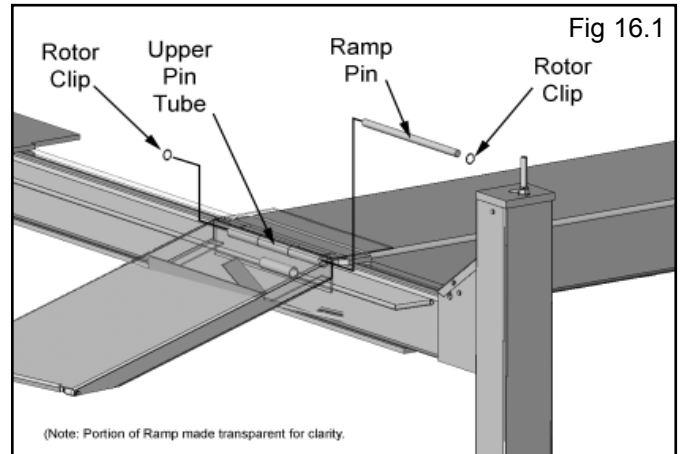

Fig 16.1
1. Install the Approach Ramps on the entry side of the lift. Use the Top Pin Tube for HDS-14-SS-X (See Fig. 16.1)